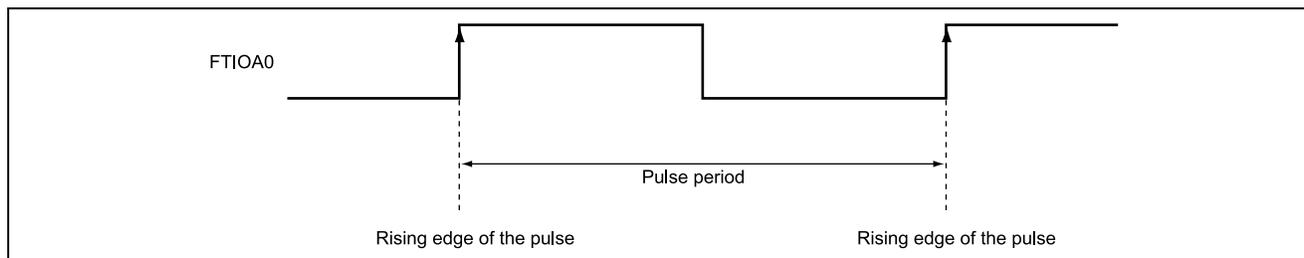

Figure 1.1 Input Pulse Period Measurement
1. As shown in figure 1.1, the timer input capture function is used to measure the period of the pulse input from the input-capture pin A0 (FTIOA0).